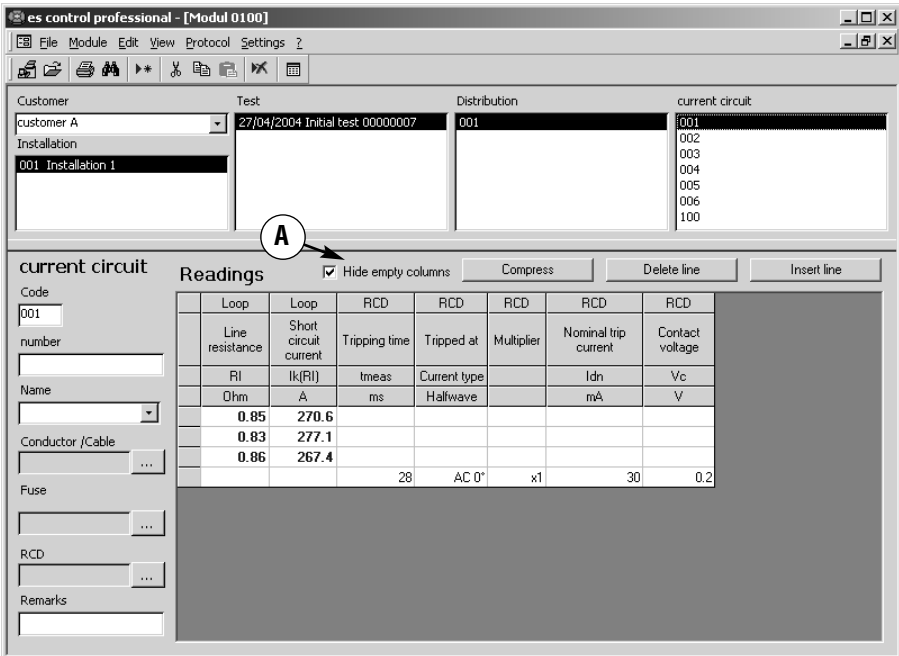

Figure 6.14: “Measurements” window
- ▶ To hide empty columns click on the marked field ‘Hide empty columns’ (A), the read in measurement results are presented as shown in Figure 6.14.